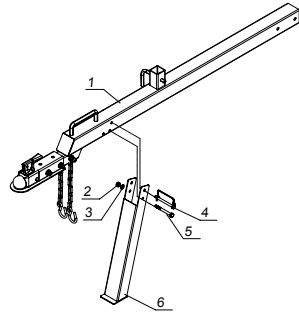

Figure 3
1. Attach the support leg (#6) to the tow bar (#1) secure using a hex bolt M10x95 (#5), flat washer $\text{\O}10$ (#3), Nylon lock nut M10 (#2) and lock pin A (#4). (See fig. 3)